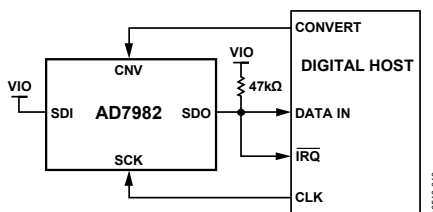
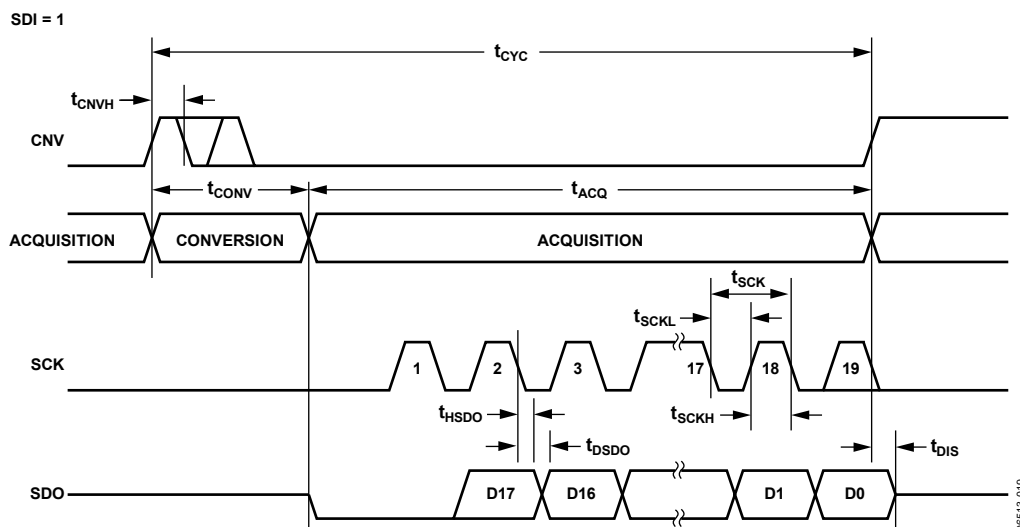
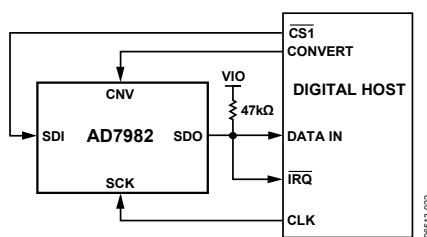
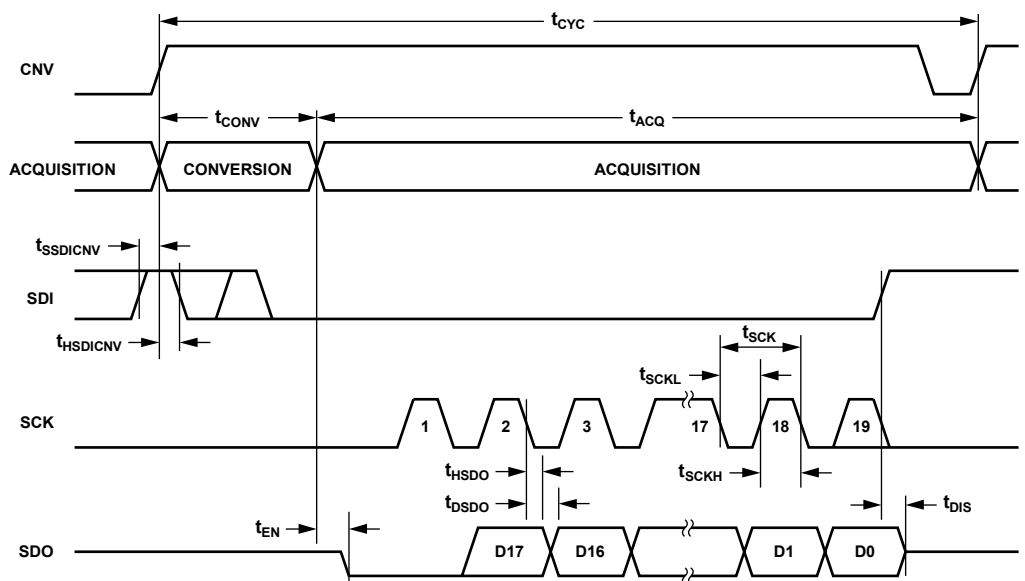

Figure 30. $\overline{\text{CS}}$ Mode, 3-Wire with Busy Indicator Connection Diagram (SDI High)
Figure 31. $\overline{\text{CS}}$ Mode, 3-Wire with Busy Indicator Serial Interface Timing (SDI High)
Figure 34. $\overline{\text{CS}}$ Mode, 4-Wire with Busy Indicator Connection Diagram
Figure 35. $\overline{\text{CS}}$ Mode, 4-Wire with Busy Indicator Serial Interface Timing
- In the $\overline{\text{CS}}$ mode if CNV or SDI is low when the ADC conversion ends (see Figure 31 and Figure 35).
The connection diagram is shown in Figure 30, and the corresponding timing is given in Figure 31.
The connection diagram is shown in Figure 34, and the corresponding timing is given in Figure 35.